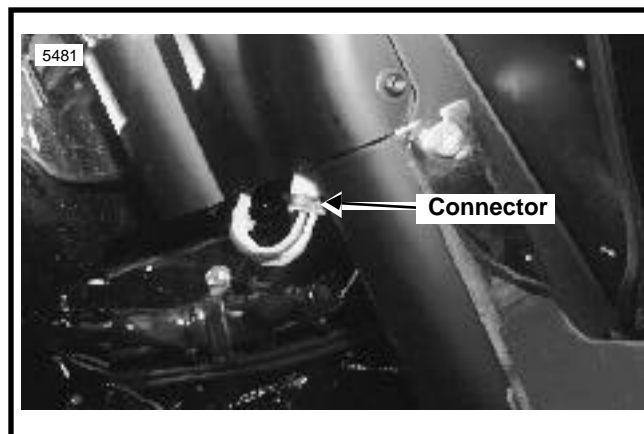

Figure 2. Fairing Switch Connector (pulled down)
2. See Figure 2. Gently pull down 12-place Fairing switch connector [105].